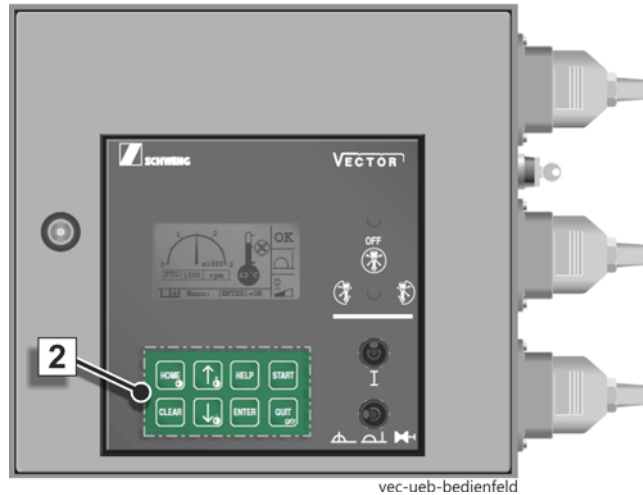

Fig. 63 Control panel
Basic functions of control panel (2) (Fig. 63):